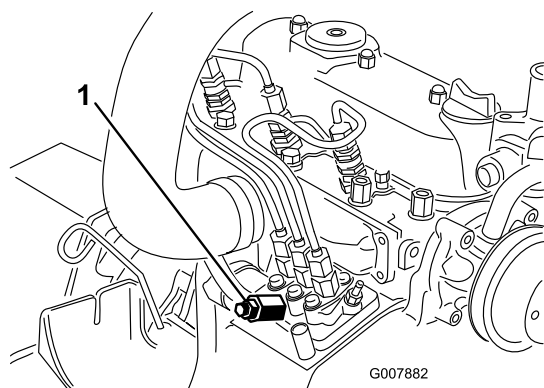

Figure 68
3. Place a rag under the air-bleed screw on the fuel-injection pump and open it (Figure 68).